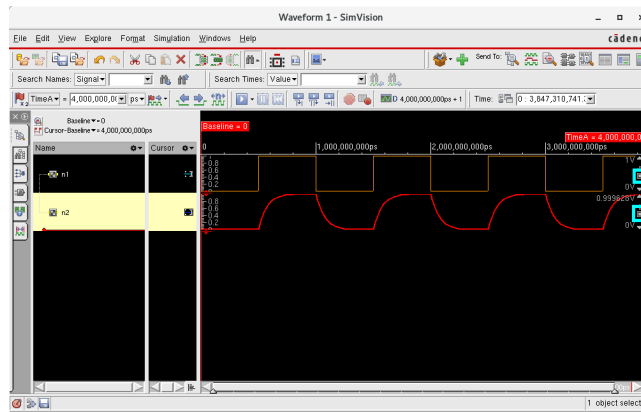

Figure 13: In- and output of the RC-network
7. When the waveform window opens, zoom out so that you can see the waveforms better. It is possible that even now the waveforms are barely visible. You can solve this by clicking on the squares at the right, indicated by the blue boxes in Figure 13. The orange waveform at the top is the input of the RC-filter, the red waveform at the bottom is the output. It is clear that the output is the low passed version of the input.